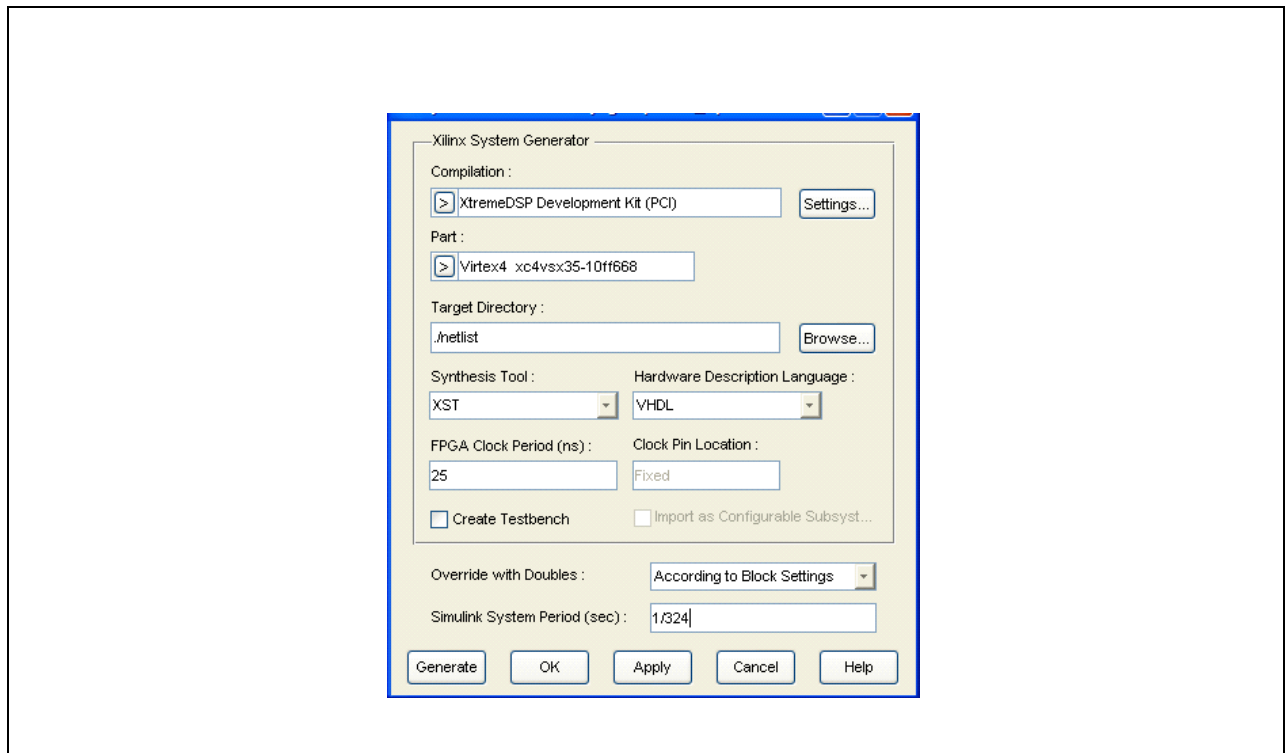

**Figure 139: Clock Pin Location**
- Clock Pin: Double click on the System Generator block, set the clock period to 25ns and the clock pin location to A16 as shown in **Figure 139 on page 213**.